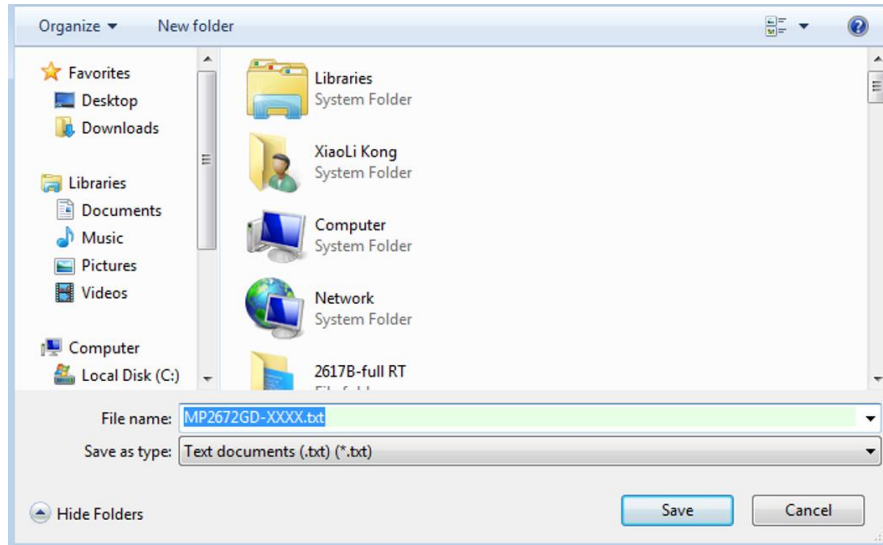

Figure 11: Exporting a File
- Find a location for the exported file, and click “Save.” The customized configurations will be saved in a .txt file (see Figure 11).